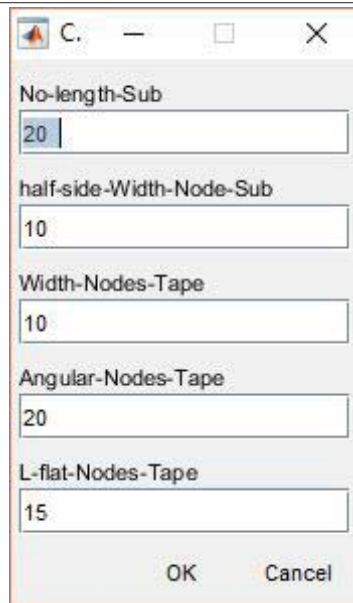

Figure 122: Computational parameters window.
The first parameter to be defined is the material property of the tape. This means to define the thermal conductivity (K), density (ρ) and C_p (The specific heat). The same three parameters are asked in the next text box to define the substrate properties. We can also define the velocity of the roller on the mandrel (for eg: 100 mm/s). The total energy is defined as the net energy emitted by the laser head. The laser ID right now can only be toggled between Uniform and Gaussian (input 0 and 2 respectively to set Laser ID). The incoming temperature of both tape and substrate are assumed to be room temperature (25 degree Celsius). The incoming temperature is the temperature of tape and substrate before being incident with the laser rays. The convection coefficient (h) from substrate to mandrel and the convection coefficient (h) from tape to substrate can be defined. We can also insert the normal roller force which is set as 0 here. Now, we move on to the Computational parameters as shown in Figure 122.